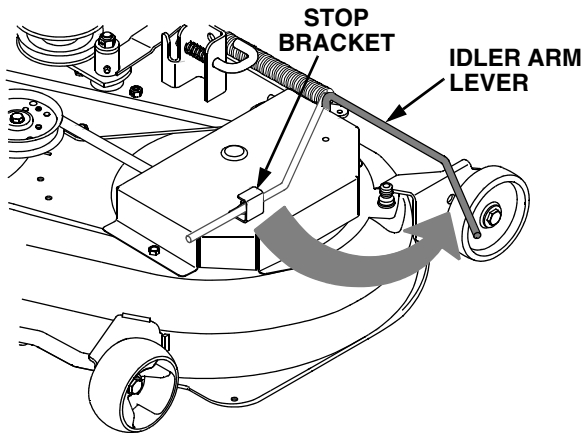
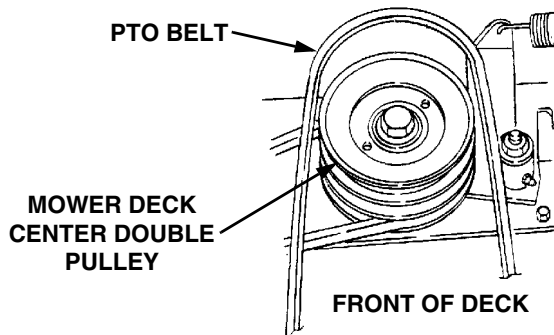

Figure 38
Figure 39
2. Lower the mower deck by moving the implement lift handle to its lowest setting. Disengage the deck idler arm lever from its stop bracket and release the spring tension by rotating the lever out and rearward (See Figure 38).
3. Remove the rearward end of the PTO belt from the upper pulley of the deck center double-pulley (See Figure 39). Engage the deck idler arm lever back into its stop bracket (Refer to Figure 38).